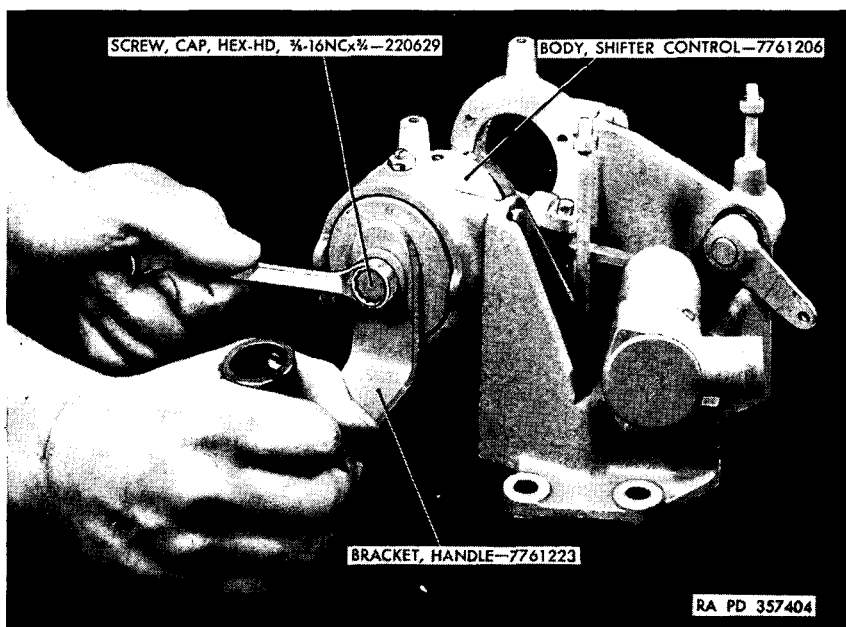

Figure 103. Removing or installing of bolt on gunner's shifter control shaft.
- (3) Remove lock wire and screw (fig. 103), and pull off handle bracket, disk, spring, and washer. Disengage ear on bearing lock washer and remove lock nut with barrel spanner wrench (7082979), screwdriver, and two  $\frac{1}{8}$ -inch pins (fig. 104).